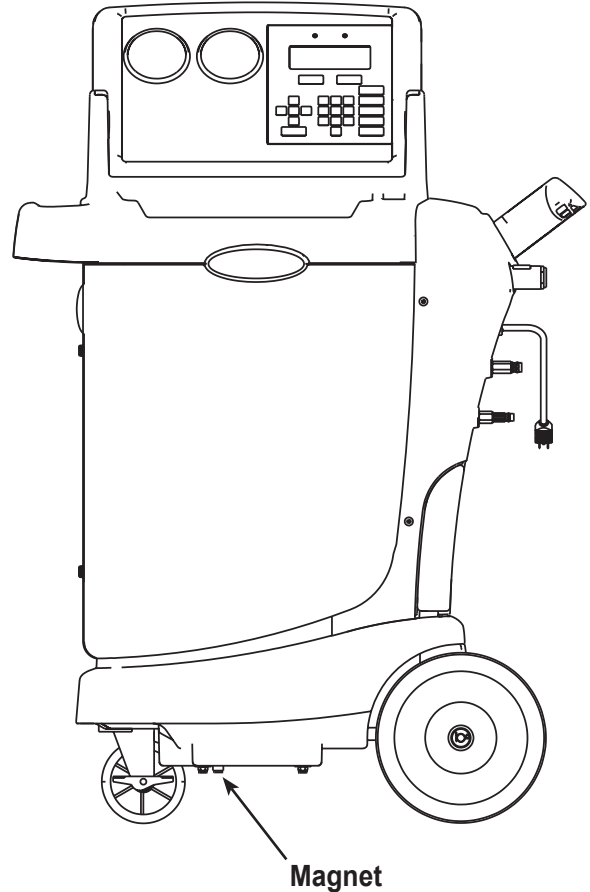

Figure 18
3. Refer to Figure 18, and verify the magnet on the bottom of the unit is clean. Press **START / YES**.